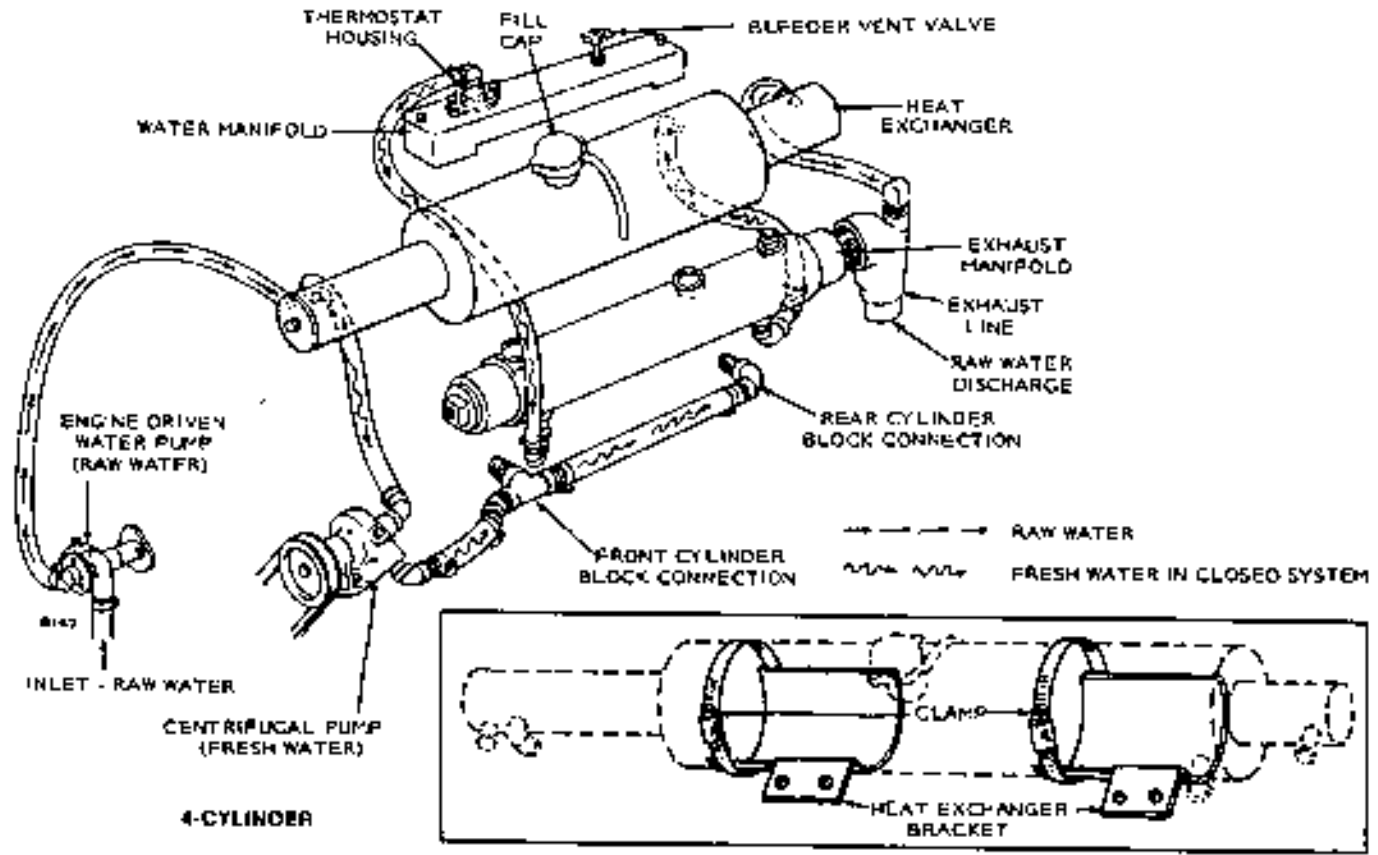

FIGURE 6-40. HEAT EXCHANGER HOSE SCHEMATIC (BEGIN SPEC D)
- (2) Close nipples, tee, 45-degree elbow, and (2) halfnipples in the front cylinder block inlet.
- Close nipple, (2) elbows, short nipple and a half nipple in the exhaust manifold (front).
19. Measure and cut hose to lengths required and install using clamps furnished. Use 3/4-inch hose for the fresh water connections and the 1/3-inch hose for raw water connections. See Figure 6-40.